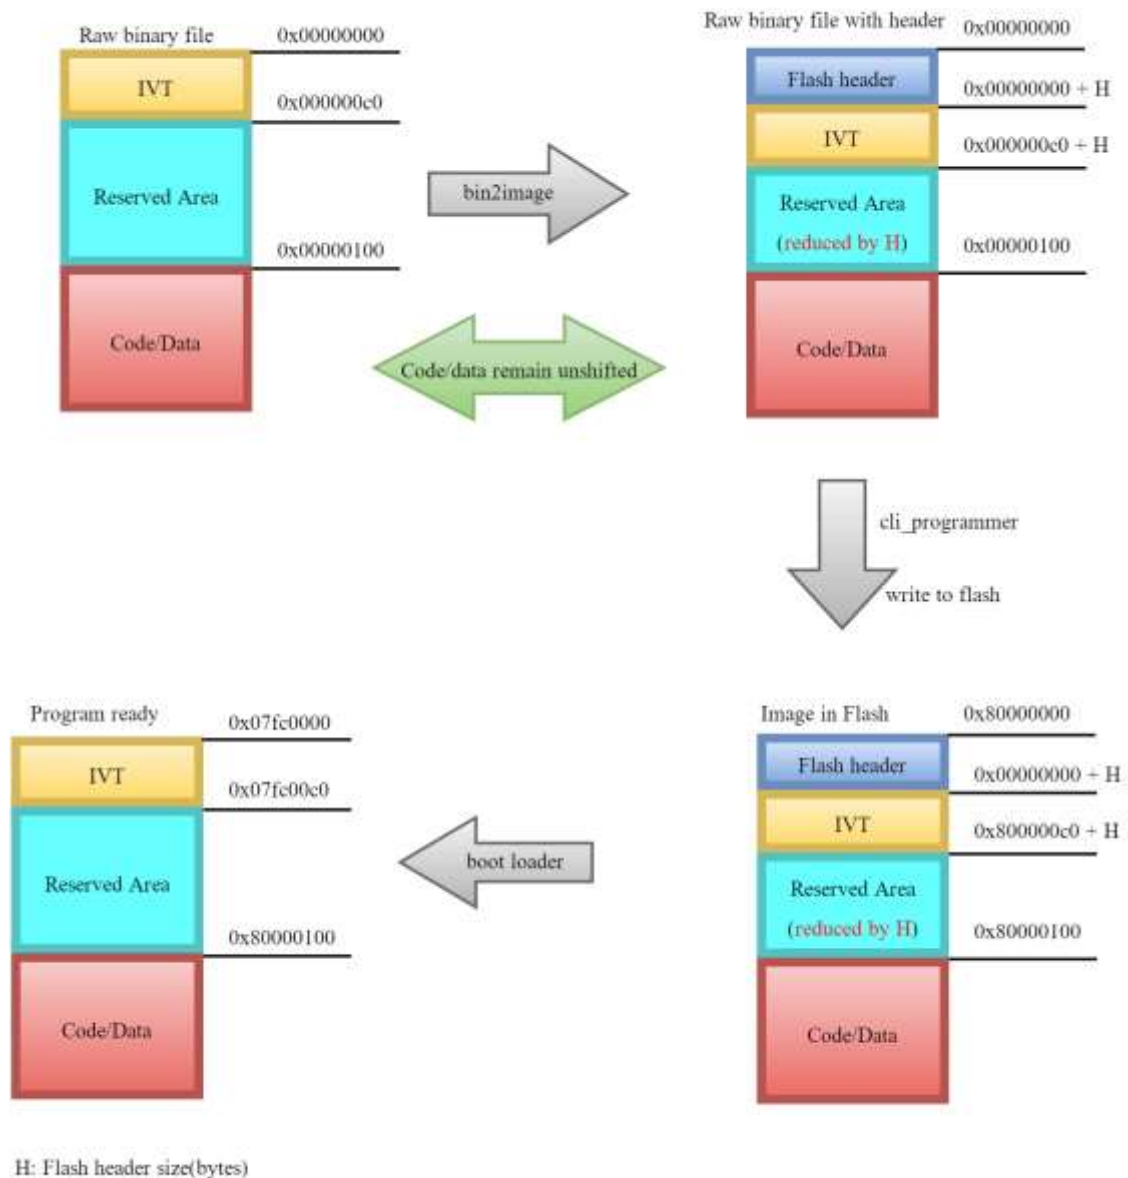

Figure 43: Flash cached pre-execution stages
As shown in Figure 43, the reserved area that follows the IVT is reduced by the size of the flash header (H). This is harmless, since the contents of the reserved area are written after the program starts execution. After the boot loader detects the valid image in flash, it copies memory area `[0x80000000 + H, - 0x800000ff]` to RAM `[0x07fc0000, 0x07fc00ff - H]`, thus skipping the header and placing the IVT in the beginning of RAM, restoring the reserved area to its original size.